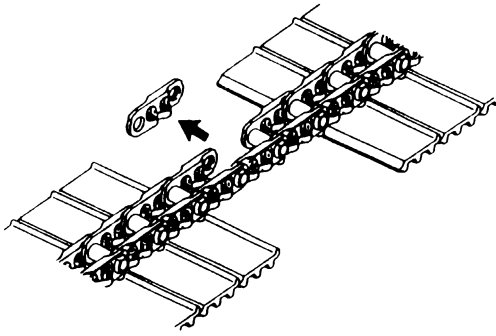

Fig 23.
- 5 Remove the damaged link → Fig 23. \(□ J-9\).